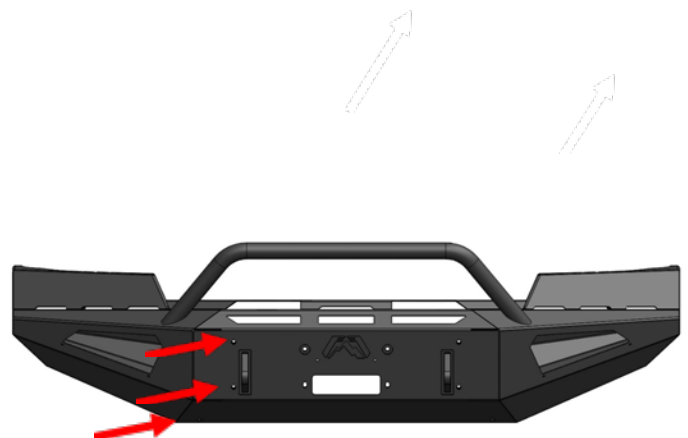

Figure 2
2. With assistance, hold the bumper up to the winch tray and attach it using the six (6) bolts, flat/lock washers and nuts with a 3/4" socket wrench. (50218-HW) Figure 2.